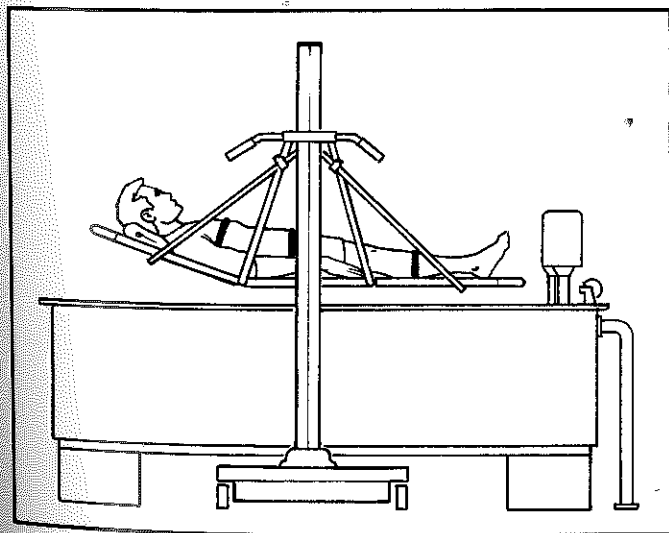

Figure 3-17
7. Adjust one end of Stretcher for use as a headrest — HEAD OF PATIENT OR RESIDENT MUST BE ABOVE WATER LEVEL (see Figure 3-17).
12. Upon completion of whirlpool or bath, raise Lift Stretcher with patient or resident out of water. Permit water to drain for a few seconds. (Depress "Up" button of handswitch, see Figure 3-17.)